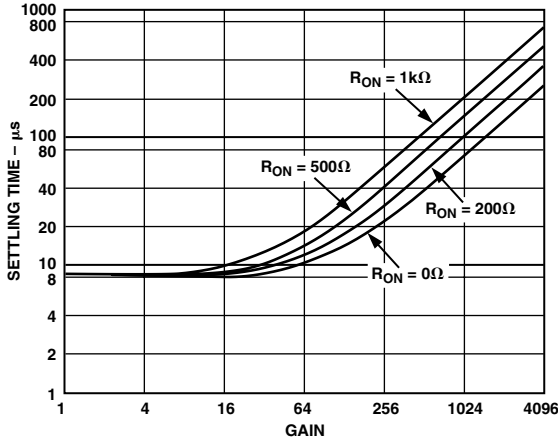

Figure 40. Time to 0.01% of a 20 V Step Input for SPGA with AD625
- The frequency response and settling will be affected by the ON resistance and internal capacitance of the multiplexer. Figure 40 shows the settling time vs. ON resistance at different gain settings for an AD625 based SPGA.